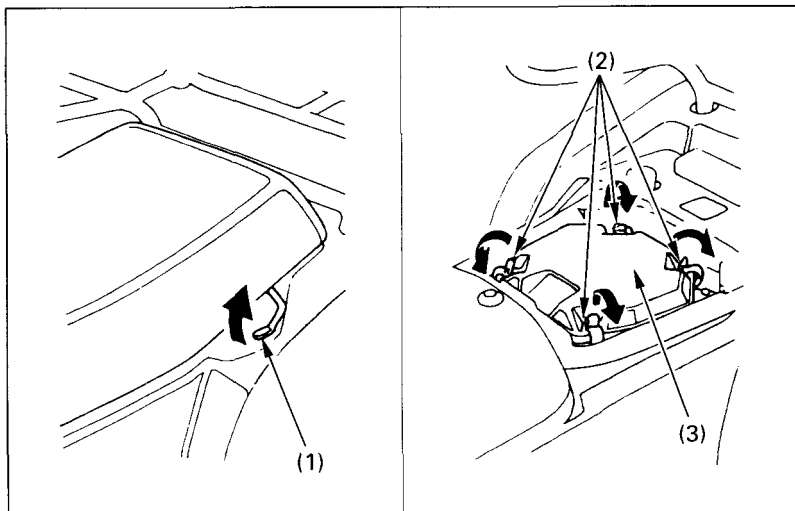

Fig. 4-5
1. Remove the seat by pulling up the seat lock lever (Fig. 4-5).
2. Unlatch the four retainer clips (2) and remove the air cleaner housing cover (3).